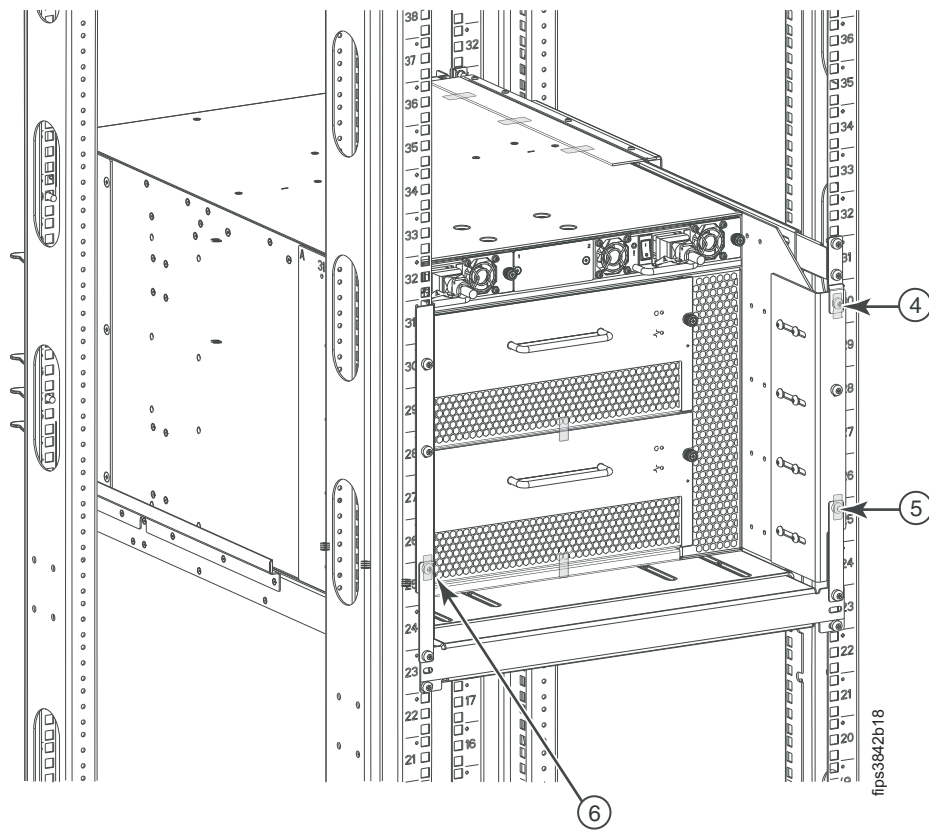

Figure 50. Three FIPS seals applied to the FIPS bracket screws on non-port side of the rackmounted 2499-416
5. Apply one seal **4** mounted vertically to the upper right FIPS bracket screw, one seal **5** to the lower right FIPS bracket screw, and one seal **6** to the lower left FIPS bracket screw, as shown in Figure 50. Ensure that each seal is firmly affixed.